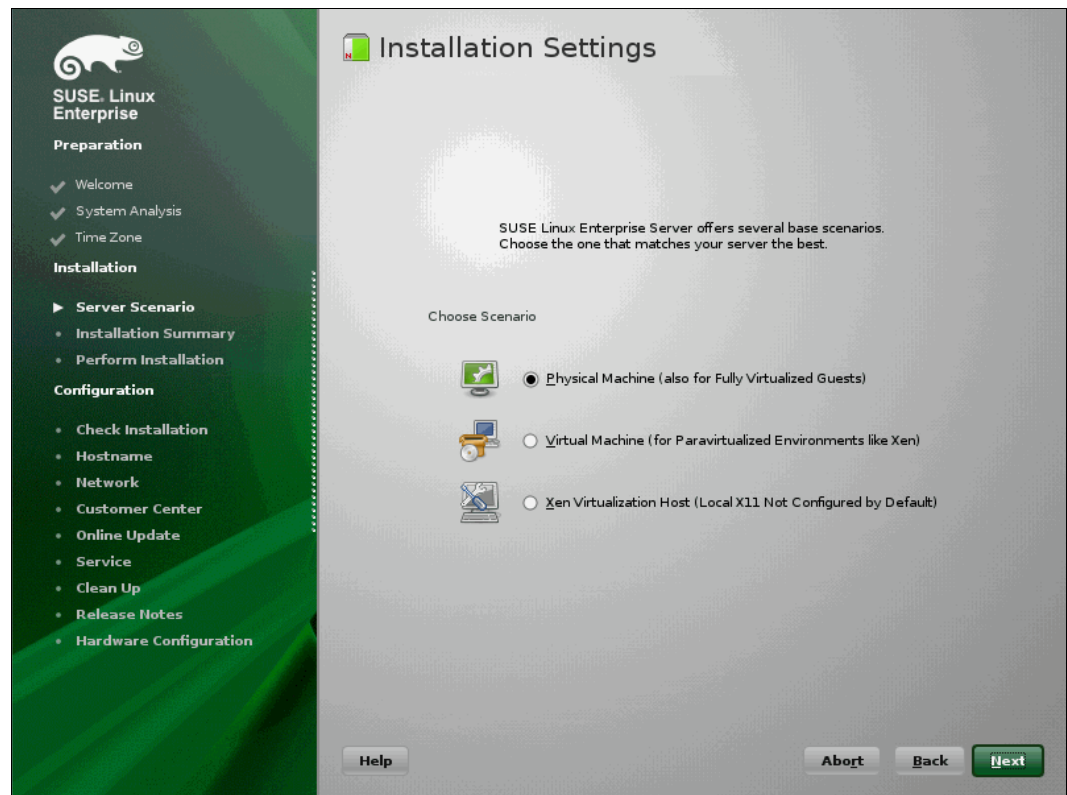

Figure 9-45 Server Base Scenario
12. In the Server Base Scenario (Figure 9-45), select the Physical Machine, and click **Next**.